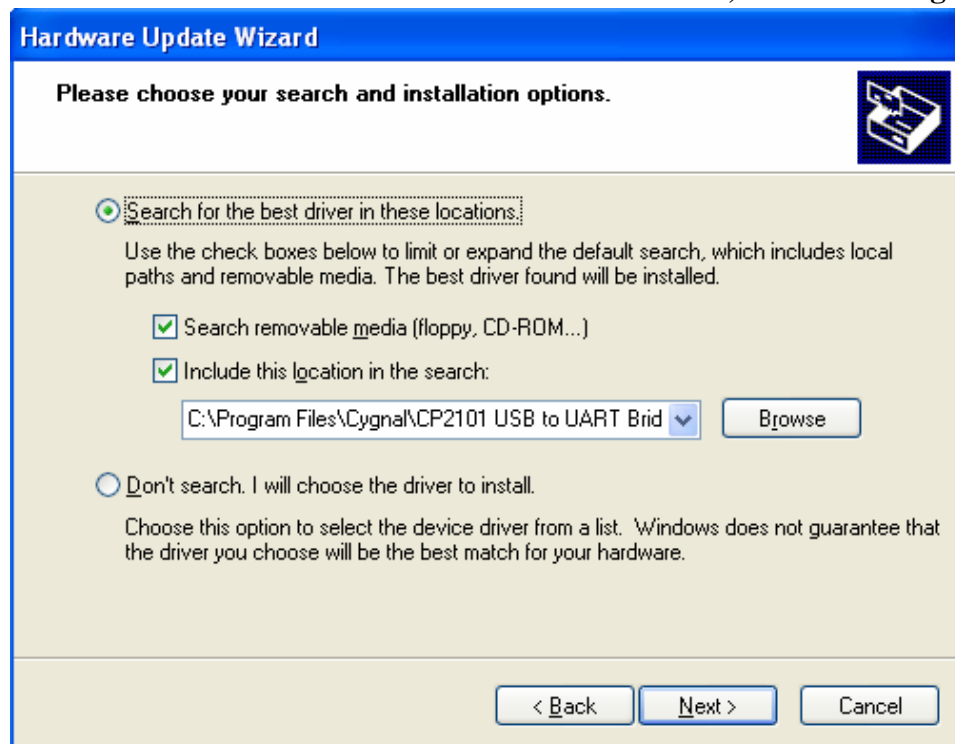

Figure 5
(5). Choose "Search for the best driver in these locations ", as shown in figure 5.